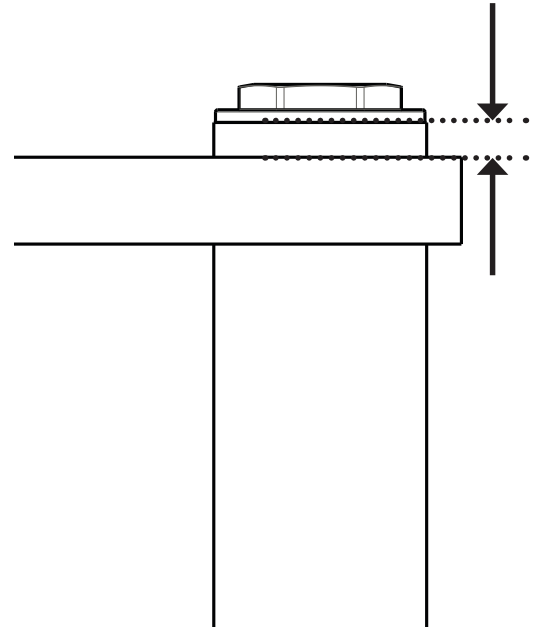

Fig. 1: Note the fork position relative to the triple clamp.
2. Prior to removal of the fork legs, note the fork leg height relative to the triple clamps (Fig. 1). Note the left (clutch side) and right (throttle side) leg separately so the cartridges are installed into the correct side.
1. Use the manufacturer's workshop manual to reinstall the fork leg and other removed components on the vehicle. Reference the height you measured when removing the fork ("Fork Leg Removal" section, Step 2, Fig. 1) to set the same distance between the fork leg height and the triple clamp. Refer to the manufacturer's workshop manual when setting the fork height in the triple clamps.